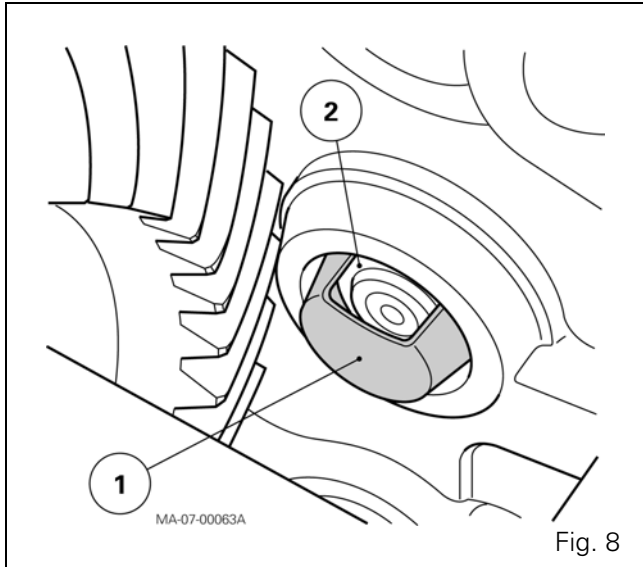
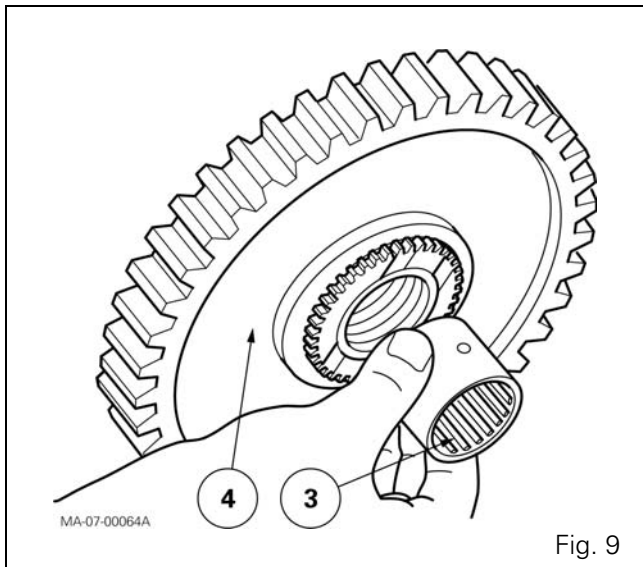

Fig. 8
Fig. 9
31. Lightly smear the oil slave device (1) with Loctite 648 or equivalent on the face turned towards the centre housing. Insert the slave device with its open end facing up (Fig. 8).
32. Insert the bearing (2) into the housing thrust up against the oil slave device (1) (Fig. 8).
- NOTE:** Turn the sealed part of the bearing towards the pinion (4).
33. Using a jet of compressed air, check that the oil channel in the shaft (13) is not obstructed. Lubricate the rings (19) (20). Refit the pinions (4) (7), the coupler (5) with the hub (6), the ring (3), with the opening of the teeth turned towards the rear of the tractor (Fig. 9).
- NOTE:** If rings (19) (20) (no reference code given in spare parts catalogue) are damaged, replace the pinions (4) (7).